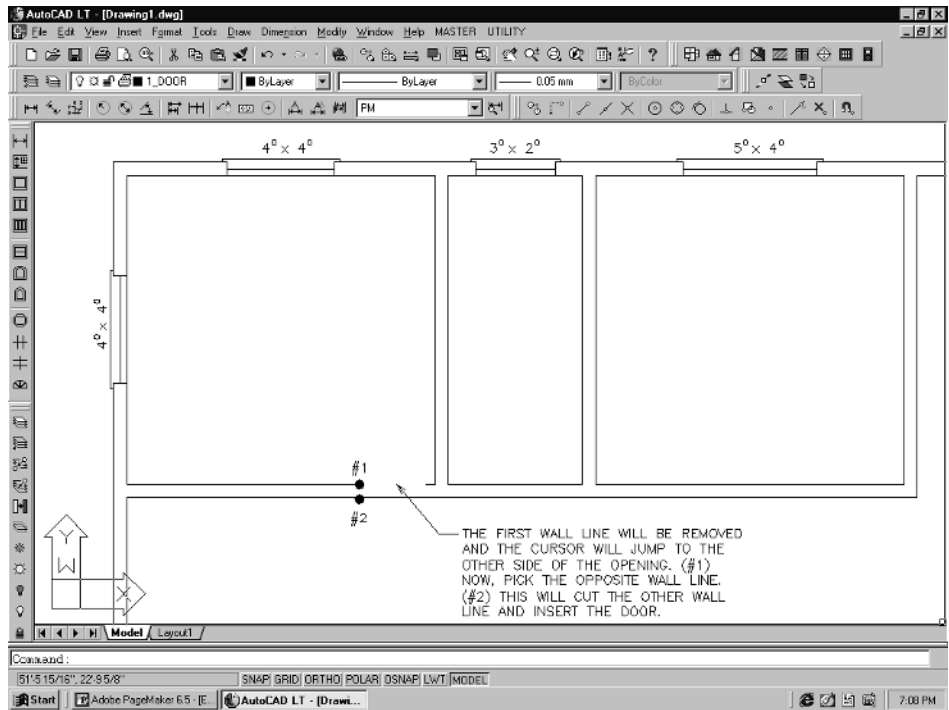

Figure 6-27
4. The next prompt is *From point: _per to.* This is prompting you to pick the opposite wall line. See Figure 6-27.